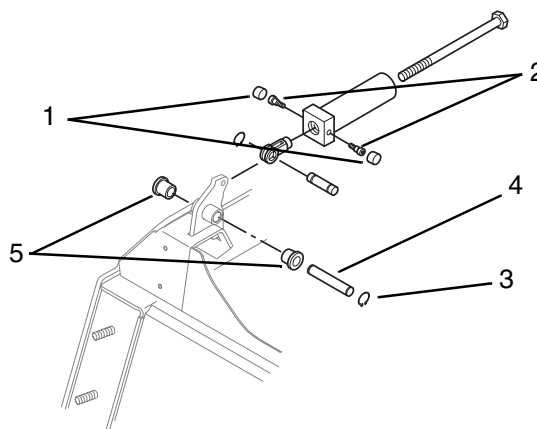

Figure 9-53 Operator Protective Structure Shock Absorber
17. Disconnect shock assemblies by removing the caps (Fig. 9-53, 1) and shoulder screws (2) from both shock assemblies.
19. Remove two retaining rings (Fig. 9-53, 3) from both pivot pins (4) and remove the pins. The plastic bushings (5) can be removed, inspected, and replaced, if required, once the structure has been removed.